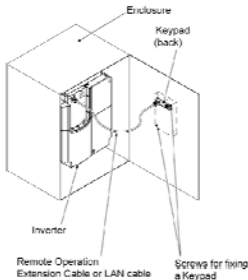

Figure 2.30 Mounting a Keypad on the Enclosure Wall
- Mounting a keypad on the enclosure wall (Refer to Figure 2.30.)